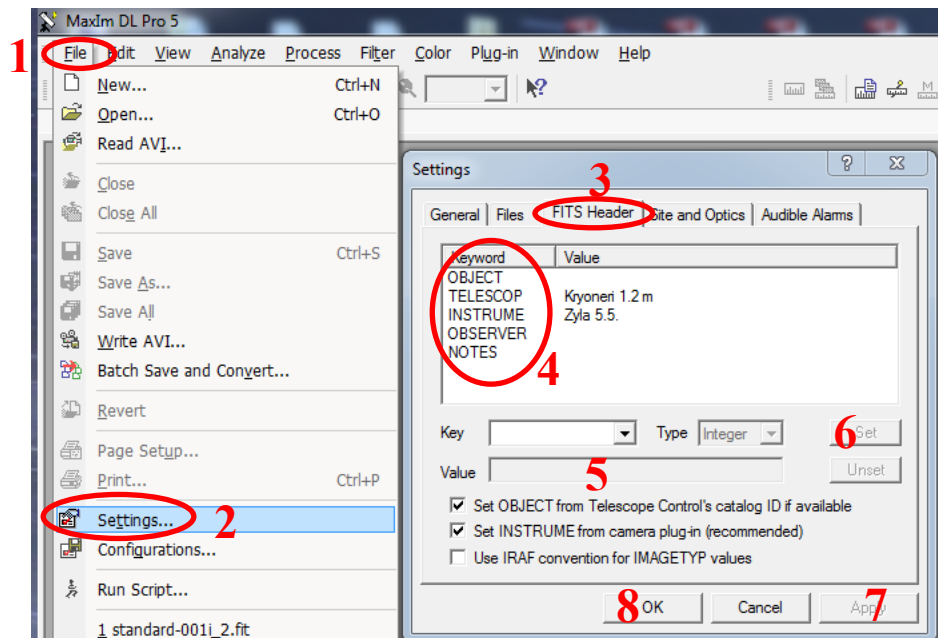

Fig. 5.9. Changing FITS header values/strings in MaxIm DL.
1. Click on the “File” menu (Fig. 5.9 No 1).